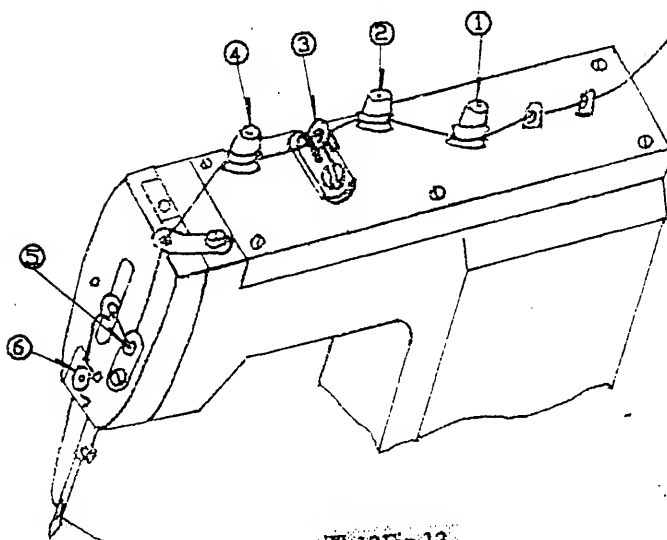

Fig.13
6. Threading and thread tension discs (as shown in Fig.13).
Thread the machine in accordance with the diagram as shown in Fig.13. Threading improperly will affect the sewing quality directly.
6. 穿线方法和压线器压力的调节(见图 13)
当穿线错误时, 会直接影响缝纫质量。请按图 13 正确穿线。